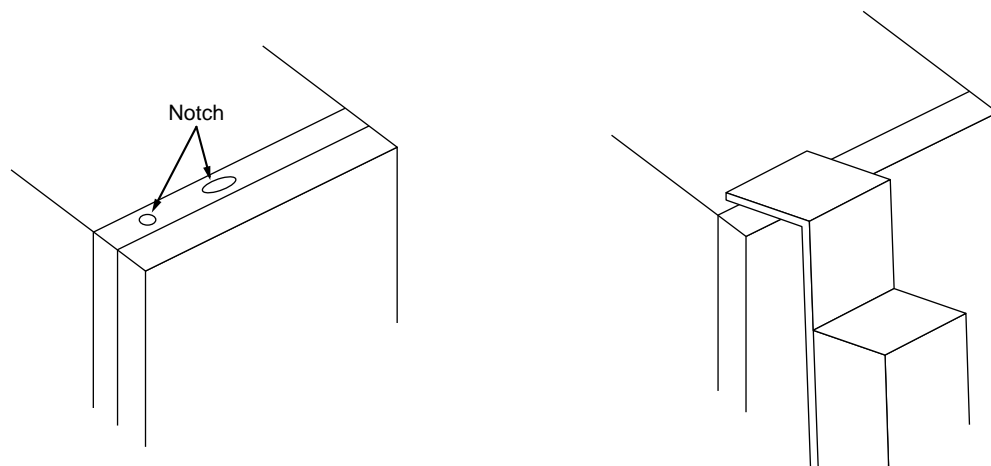

Figure 2.3.3 Installation of the Dedicated Adapter
- (2) Hang the dedicated adapter on the top notches of the US1000 controller, as shown in Figure 2.3.3.
- (3) Push the adapter on to the controller's front panel so it is securely fixed.